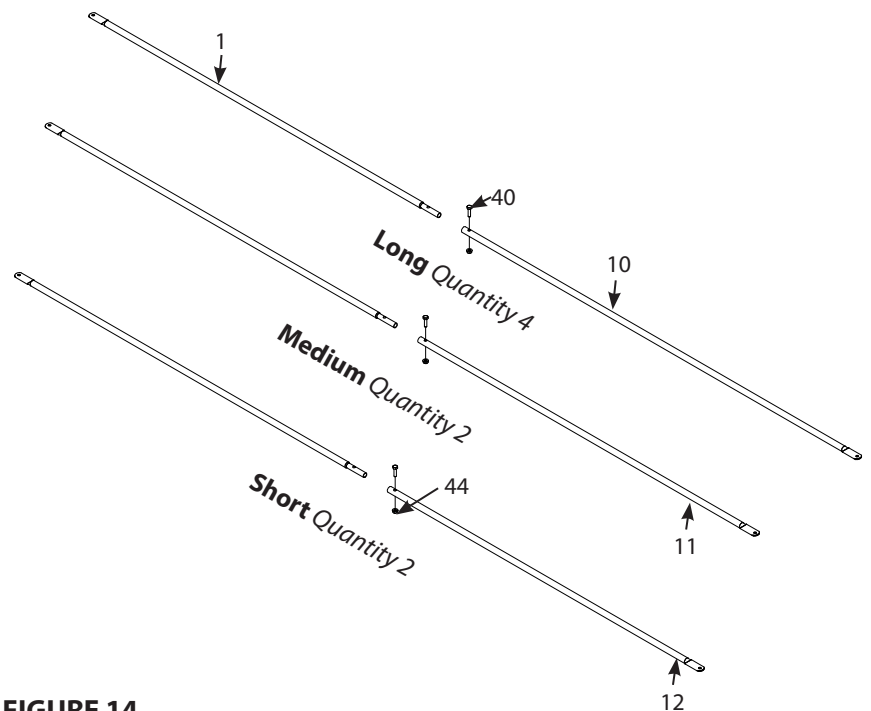

FIGURE 14
14. Off to the side, assemble the cross braces by inserting a male cross brace (1) into each female cross brace (10, 11, 12). Secure each assembly together using a 1/4-20 X 1 IN bolt (40) and 1/4-20 nut (44). You should have a total of eight cross braces assembled, four long (1, 10), two medium (1, 11), and two short (1, 12). **SEE FIGURE 14. Securely tighten all loose hardware at this time.**